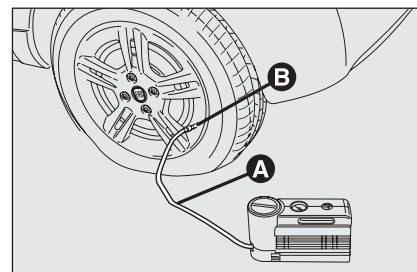

fig. 5
- Pull up the handbrake. Loosen tyre inflation valve cap, take out the filler hose **A**-fig. 5 and screw the ring nut **B** on the tyre valve;